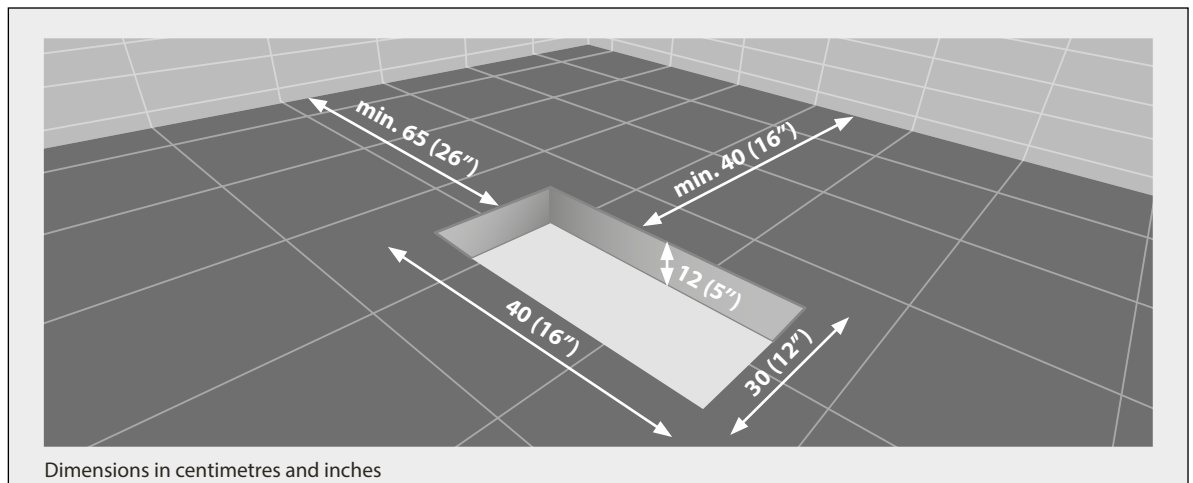

Fig. 2
- Make sure the floor and the platform (if mounted) offer a support of at least 800 kg (approximately 1800 lb) under the tub. Make sure the floor and supporting surface are flat and even.§This tub can be installed on the floor or on a raised or recessed platform.§If the tub is placed on the floor, drill a hole of the size indicated in the figure below; the trap must be suitably positioned bearing in mind the dimensions of the tub (see Fig. 2).